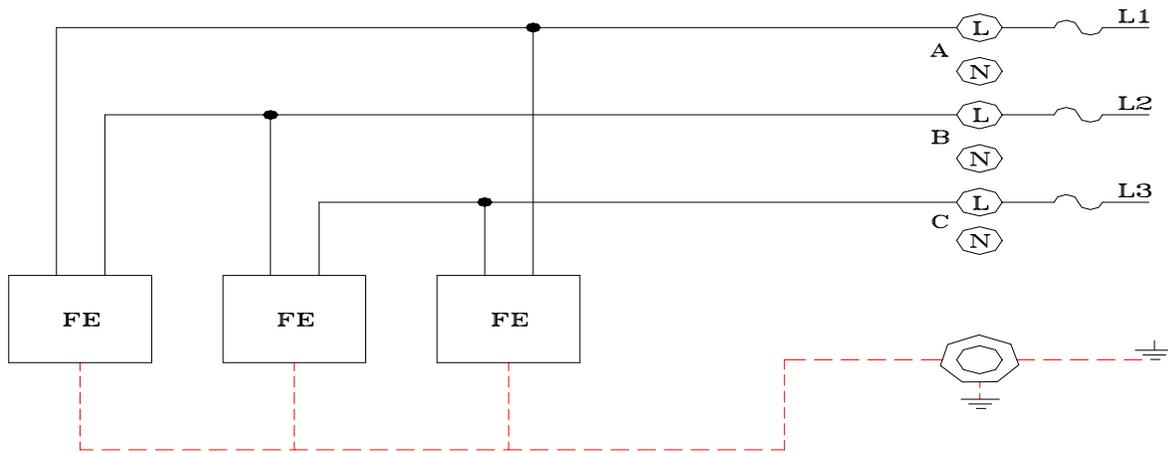

Figure 6. Three-Phase ( $\Delta$ ) Configuration L1, L2, L3, 120/208V Mains
The input AC section of the FE6K-XE or FE6K-NE is wired in a  $\Delta$  connection, enabling full power of the FE power modules at low mains input voltage of 120/208 VAC. (See Figure 6.) An input AC section in three-phase ( $\Delta$ ) configuration is available on request. Modifications to the back plane in the field from (Y) to ( $\Delta$ ) configuration is not recommended.